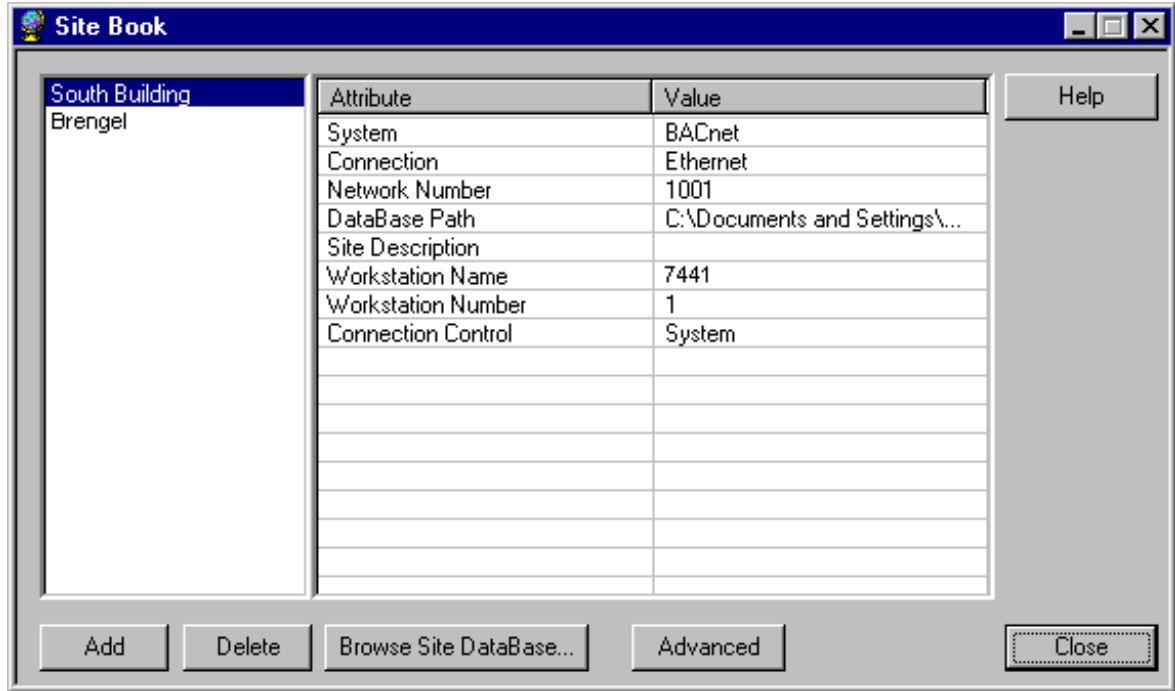

Figure 4-2: Site Book Screen with a Site Selected
2. Click on the Directory Button. The Site Book screen appears (Figure 4-2).